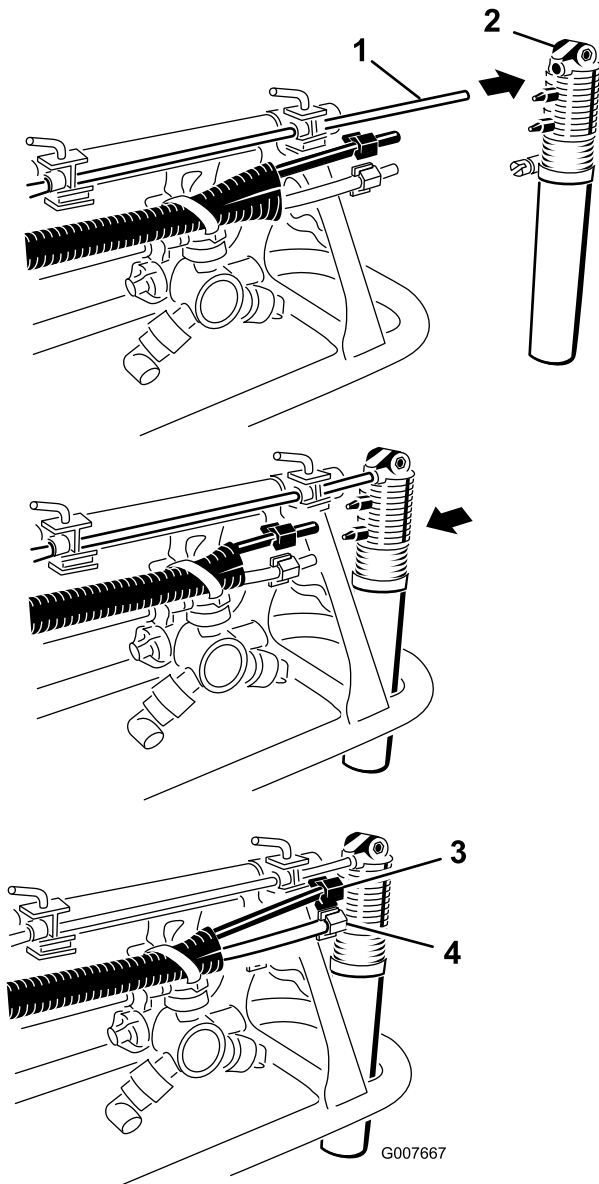

Figure 21
1. Locate the foam nozzles in loose parts and install a nozzle to the mounting rod as shown (Figure 21).